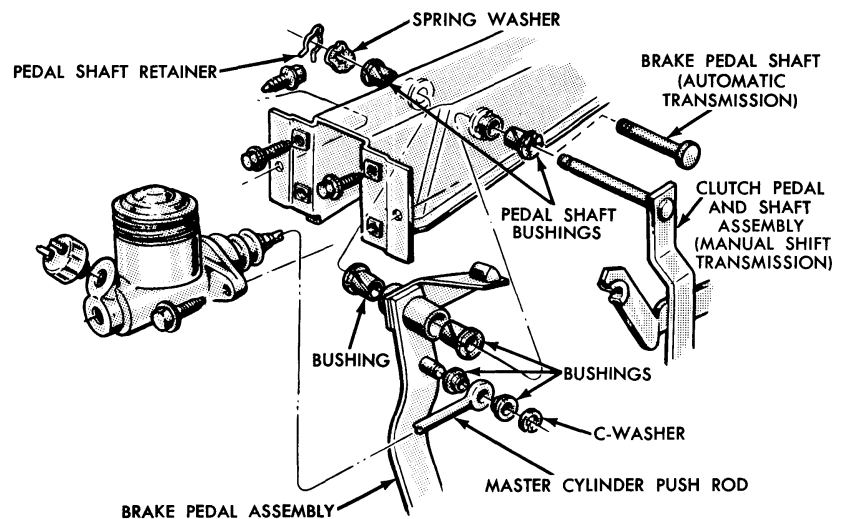

FIG. 16—Brake Pedal Removal and Installation
4. Remove the C-washer and nylon bushings (Fig. 16), and disconnect the master cylinder push rod from the brake pedal assembly.
5. Remove the hairpin type retainer and spring washer from the clutch and brake pedal shaft, then remove the clutch pedal and shaft assembly, the brake pedal assembly, and the bushings from the pedal support bracket (Fig. 16).
2. Position the brake pedal to the support bracket, then install the clutch pedal and shaft assembly through the support bracket and brake pedal assembly. Install the spring washer and retainer (Fig. 16).
7. Connect the master cylinder push rod to the brake pedal assembly with a C-washer and nylon bushings (Fig. 16). Apply Lubriplate to the bushings.
1. Remove the C-washer and nylon bushings, and disconnect the master cylinder push rod from the brake pedal assembly (Fig. 16).
1. Apply a coating of Lubriplate to the bushings and locate all the bushings in their proper places on the pedal assembly and pedal support bracket (Fig. 16).
3. Connect the master cylinder push rod to the brake pedal assembly with a C-washer and nylon bushings (Fig. 16).